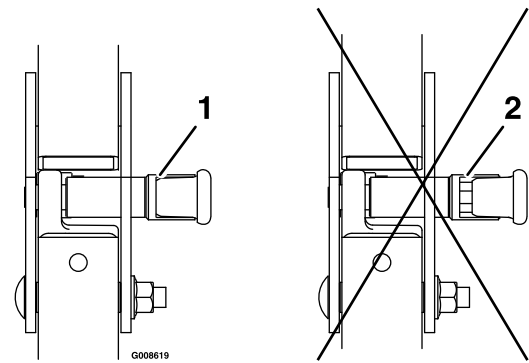

Figure 2
4. Push on the roll bar and ensure that both pins are engaged (Figure 2).